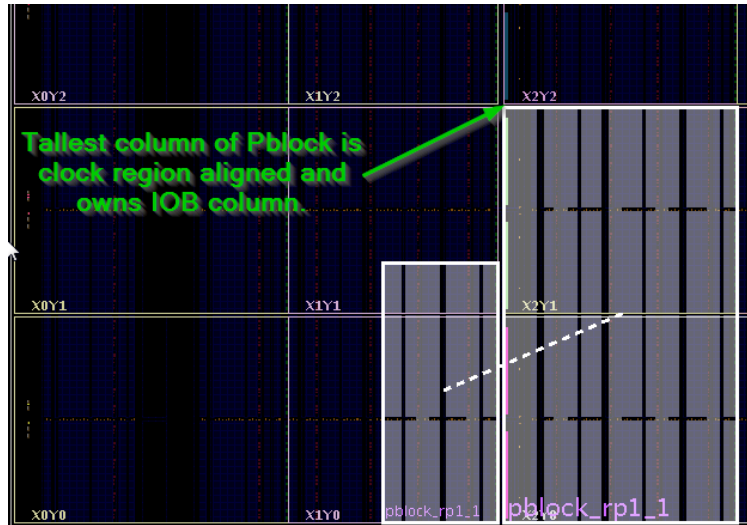

Figure 7-8: Tallest Column of Pblock Clock Region Aligned
- Xilinx recommends using rectangular Pblock shapes. Non-rectangular shapes are also supported for RPs with clocking logic, as long as the tallest column of the Pblock is aligned vertically and horizontally with the clock region. The tallest column of the RP Pblock must also range the IOB, and this range must cover the full height of all the rectangles that define the RP Pblock, as shown in Figure 7-8. In other words, this vertical column of IOB ranges must be able to access all rows of the Pblock. Pblock shapes like a sideways "L" are not supported unless the vertical section of the shaped includes the IOB range.